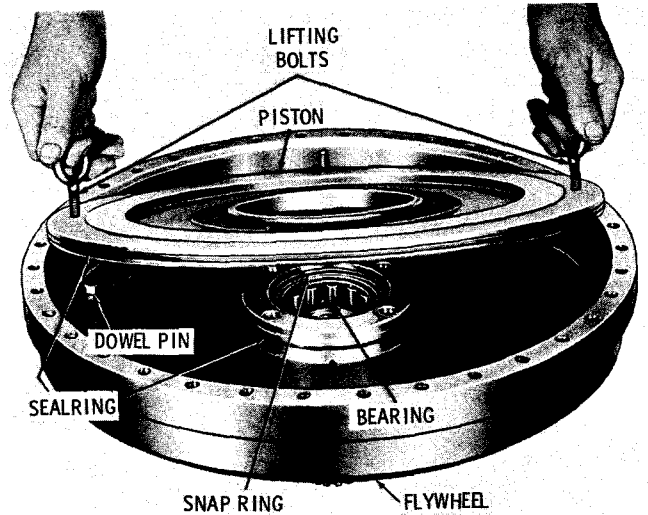

Fig. 7-86. Installing lockup clutch piston (CLT, CLBT, VCLT, VCLBT)
(9) Install the sealing onto the hub of the converter drive housing (fig. 7-86). Install